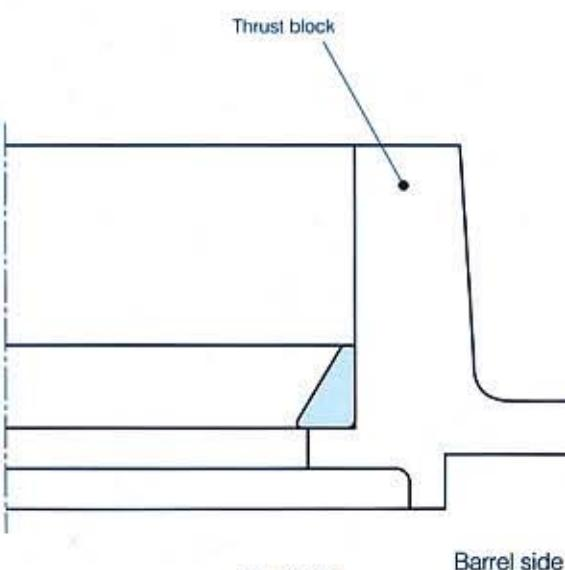
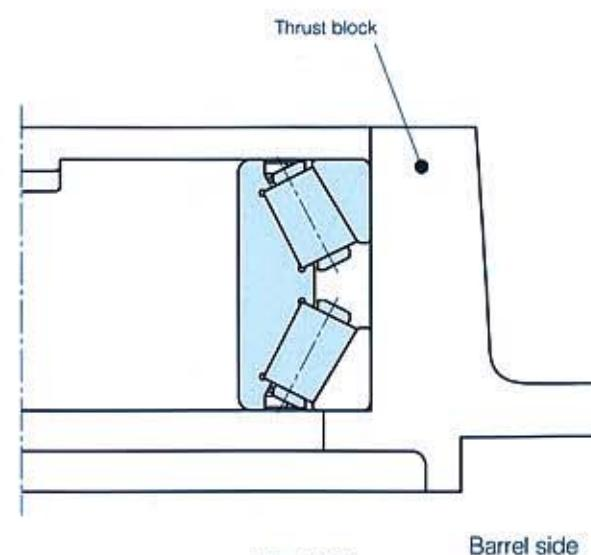

Fig. 3.34 Barrel side
Fig. 3.35 Barrel side
- (1) Set the thrust block with the barrel side down.
- (2) Apply the lubricant to the thrust block bore surface.
- (3) Apply the lubricant over all the cup surfaces with matching symbol A.
- (4) Lift the cup with a lifting tool and insert it slowly into the thrust block. (**Fig. 3.34**)
- (5) When the cup has a spacer, apply the lubricant to the cup spacer and insert it slowly into the block.
- (6) Apply the lubricant to the cone bore surface and both end surfaces, the roller's rolling surface, and both end surfaces, and the cup with matching symbol B. Rotate the cage and rollers to spread the lubricant to the cone raceway and rib surfaces.
- (7) Place the cup with matching symbol B on the cone assembly with matching symbol A down, install eyebolts into the four tapped holes in the cage. Lift them and insert slowly into the thrust block. (**Fig. 3.35**) For a window type press cage, use a lifting tool as shown in **Fig. 2.1**.
- (8) For a bearing without cup spacer and for which preloading is made with a spring, adjust the clearance according to the procedure described in **Section 3.4.2**.
- (9) Installing (removing) the holder lid. The holder lid is available in various shapes due to the diversity of recent rolling mills. Install (remove) the holder lid in compliance with the maintenance manual of the mill builder.